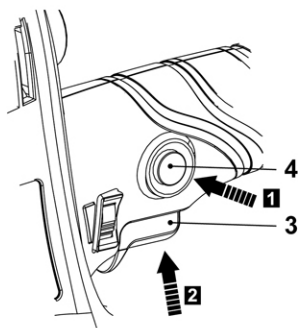

Fig. 11
- > Press the lock off/on button (4) and hold it in position (Fig. 11, step 1).
- > Squeeze the on/off switch (3) to switch the product on (Fig. 11, step 2). Release the lock off/on button (4) afterward.
- > Release the on/off switch (3) to switch the product off.
- > Squeeze the on/off switch (3) to switch the product on and hold it in position. Press the lock off/on button (4) again to lock the on/off switch (3) for continuous use.
- > Depress and release the on/off switch (3) to switch the product off.